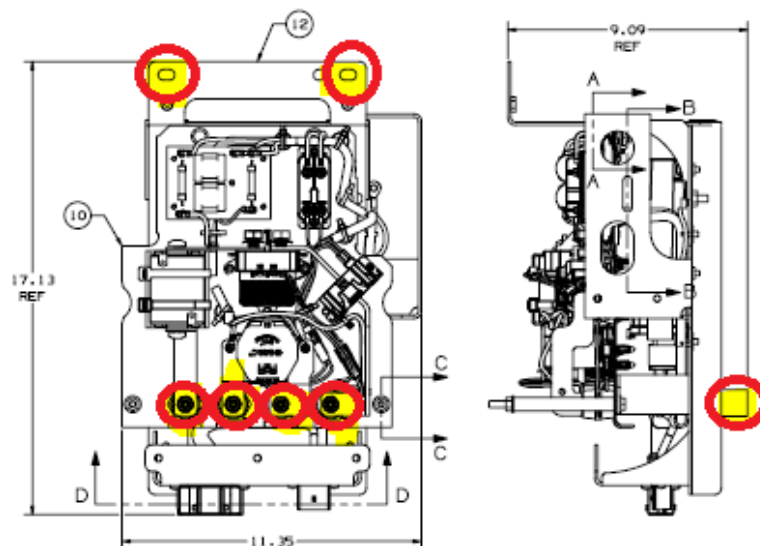

Figure 10: BDU mounting hardware
- 3.3.1 Remove the 4 nuts securing the bus bars to the BDU as seen on the bottom of the left view in Figure 10. (97 ±8 in-lbs for re-installment).
- 3.3.2 Remove the 2 bolts at the back side of the BDU assembly that mounts the BDU to the ESS. These two bolts can be seen in the single circle on the right view of Figure 10. Certain